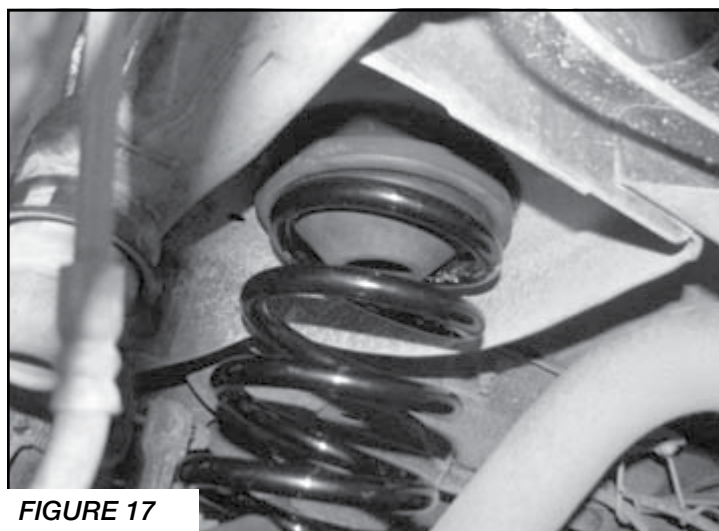

**FIGURE 15**
20. Locate FT50298 E-Brake Bracket and supplied 1/4" hardware. Position the bracket to the factory mounting position and attach with the factory hardware. Attach the factory bracket to the new Fabtech bracket with the 1/4" hardware. Torque to 10 ft -lbs. SEE FIGURE 15